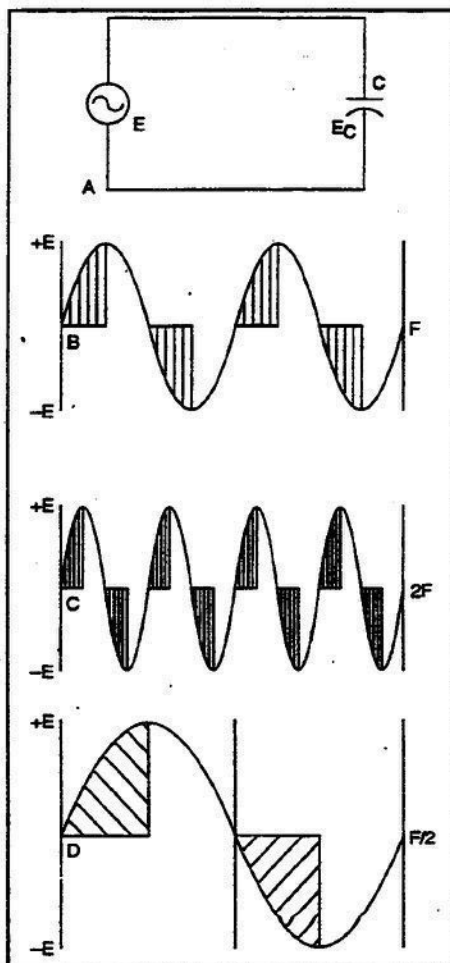

Figure 2-73. A capacitor connected in a series circuit.
**Calculating capacitive reactance.** The opposition of a capacitor to the flow of current is called *capacitive reactance*,  $X_c$ . Let us see what factors determine this reactance. Refer to figure 2-73, A, which shows a capacitor in series with an alternating-voltage source. The capacitor stores an amount of energy equal to its capacity times the voltage. This amount of energy is actually stored twice (+E and -E) in each cycle of applied voltage (fig. 2-73, B). The time allowed for charging depends on the frequency ( $f = \frac{1}{T}$ ). If the frequency is doubled with no change in C or E, the same energy (Q) is stored in half the time. When the frequency is doubled (fig. 2-73, C), the capacitor charges to the peak voltage twice as many times, using twice the current. If the frequency is cut in half (fig. 2-73, D), one-half the current flows in the same time.